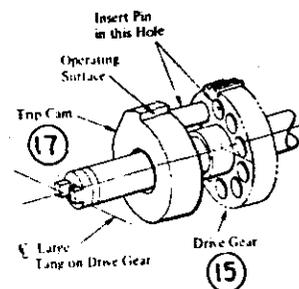

FIG. 13
- a. Push the trip cam to left to disengage it from the drive gear. See figure 13.
If the first stage shut-off is to be 10, 20, 30, 40, 50, 60, 70, 80, or 90, the trip cam must be set zero position. See figure 13.